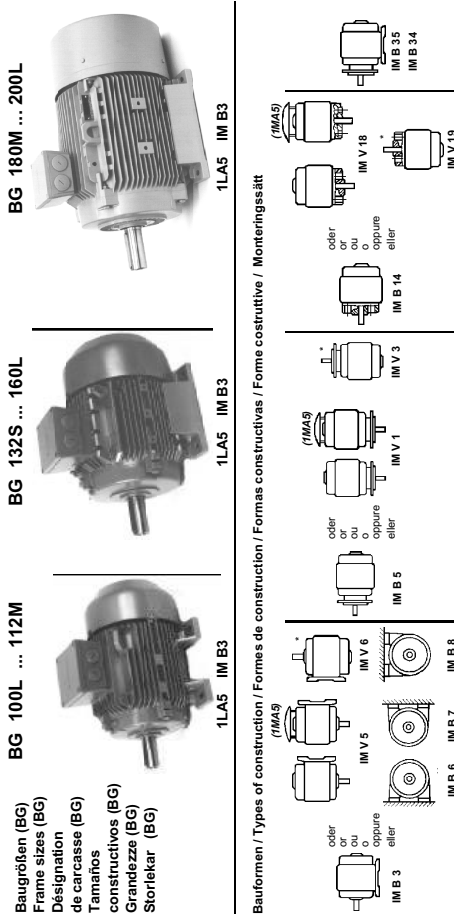

Fig. 1
In the case of motors with shaft end facing upwards or downwards (such as IMV5, IMV6 - see Fig. 1), measures must be taken to ensure that no water can penetrate into the upper bearing.
*1MA5 motors mounted with the shaft extension pointing upwards, e.g. types of construction IM V 3, IM V 6, IM V 19 (see Fig. 1), must be fitted with a cover to prevent foreign particles from dropping into the fan cowl of the motor (see DIN EN 50014/VDE 0170/0171 Part I, Section III, 16.1). This cover must not impair effective motor ventilation by the shaft-mounted fan.